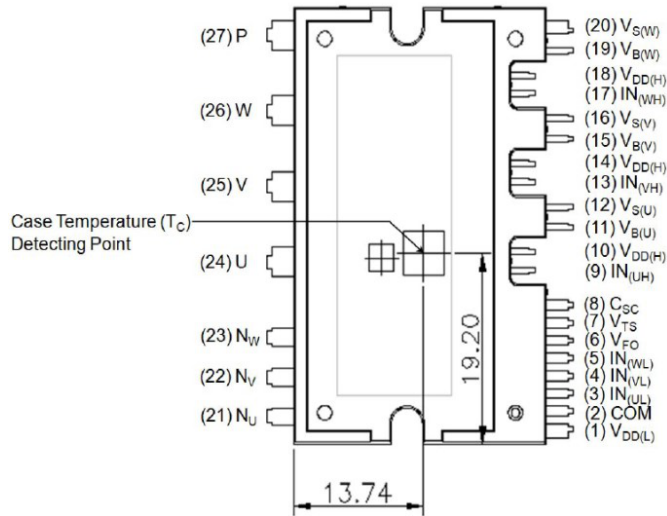

Figure 6. Case Temperature (T_C) Detecting Point
4. For the measurement point of case temperature (T_C), please refer Figure 6.